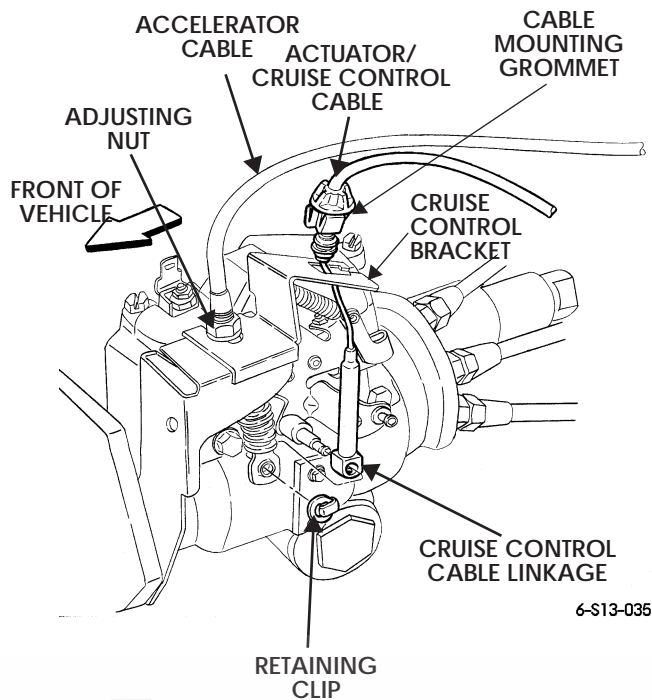

Figure 13-71: Actuator /Cruise Control Cable Mounting
**NOTE:** There are two different types of actuator/cruise control cables. Early 1995 vehicles have adjusting nuts and a separate spacer (Figure 13-67). Late 1995 vehicles have a “snap-in” mounting grommet and integrated spacer (Figure 13-71).
3. Remove retaining clip, accelerator cable and cruise control cable linkage from throttle shaft stud (Figure 13-71).
4. Depress plastic tabs on cable mounting grommet. Pull grommet and actuator/cruise control cable from cruise control bracket (Figure 13-71).
4. Route actuator/cruise control cable to the top of the engine and snap cable mounting grommet securely into cruise control bracket. (Figure 13-71).
5. Secure cruise control cable linkage and accelerator cable to throttle shaft stud with retaining clip (Figure 13-71).